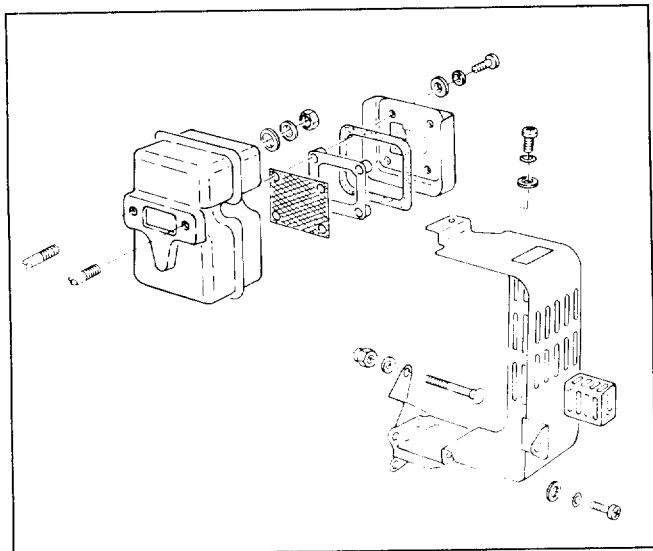
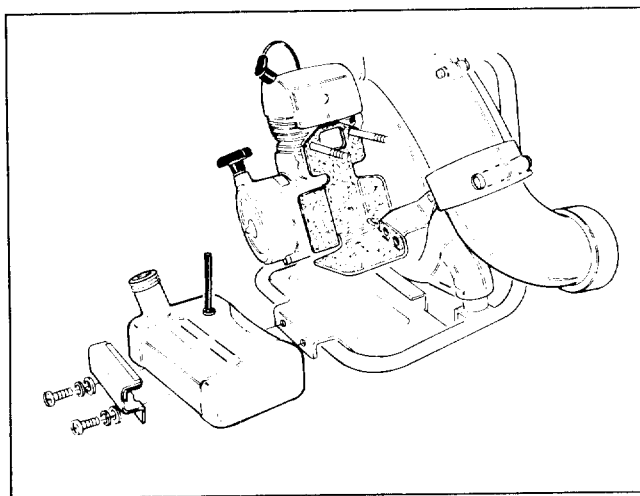

Figure 2
Figure 3
MUFFLER INSTALLATION (Fig. 2)
18. Place the flat side of the spark arrestor seat on top of the seat (Fig. 2).
20. Secure the screen holder to the muffler body with (4) new 4 x 14mm screws from the kit.
21. Install (1) new extended muffler gasket / heat shield over the studs. The back flap portion of the gasket should be positioned between the engine crankcase and muffler cover bracket (Fig. 3).
22. Install the muffler body to the cylinder with (2) flatwashers and locking nuts. **Do not tighten.**
Note: Make sure that the bottom portion of the extended gasket is located between the bottom mounting bracket of the muffler body and the lower mounting flange at the muffler cover bracket. Align the holes (Fig. 3).
FUEL TANK INSTALLATION (Fig. 3)
28. Install new fuel tank, cushion and bracket as shown in fig. 3.